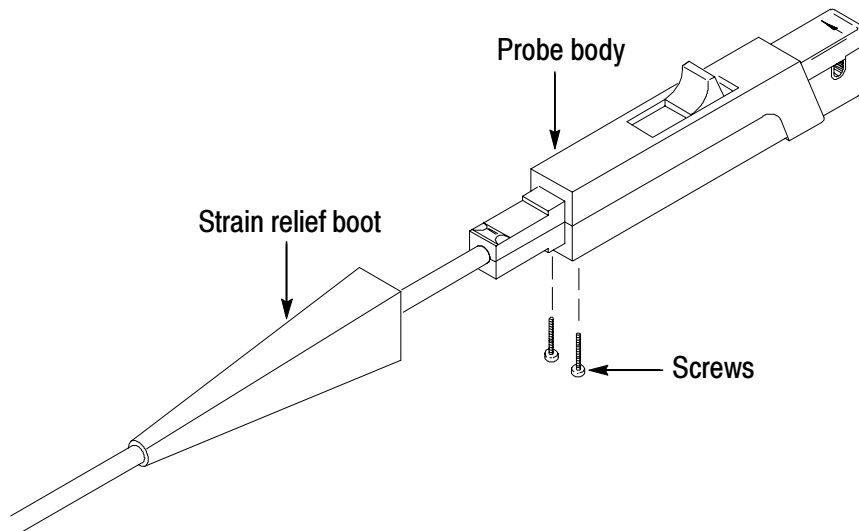

Figure 25: Removing the Strain Relief Boot
1. Remove the two screws from the bottom of the probe and pull the strain relief boot back as shown in Figure 25.